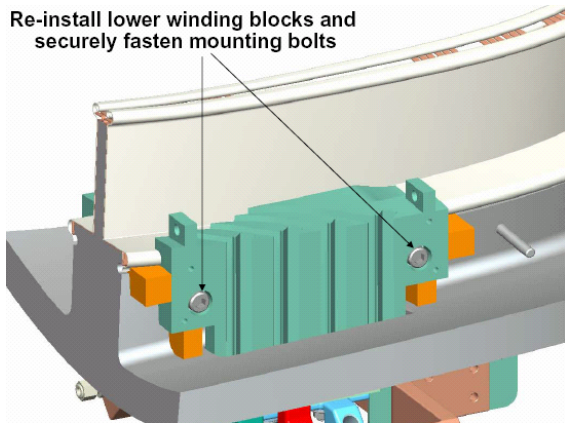

Figure 6- Re-installation of Lower Winding Blocks
6.8.1 Reinstall the lower positioning bushings and G-11CR winding blocks on sides "A" and "B". Secure hardware. [Figure 6- Re-installation of Lower Winding Blocks